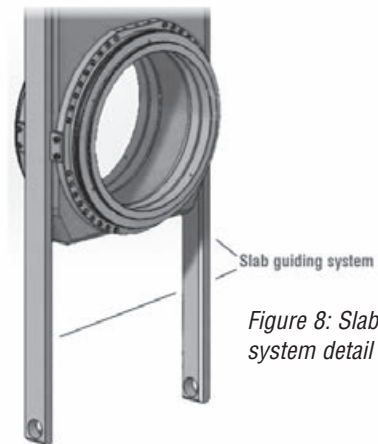

Figure 8: Slab guiding system detail
- Advanced slab guiding system [Figure 8]:**